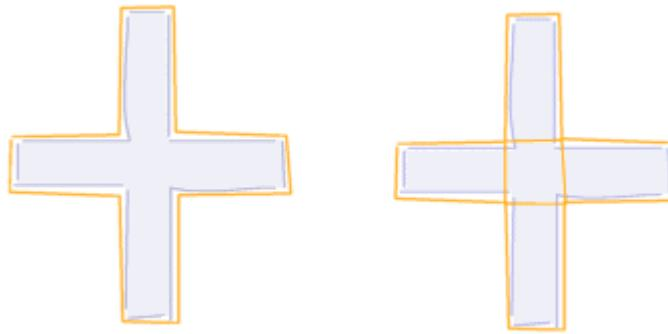

Figure 2. The apparatus map on the left only defines the borders of the plusmaze, whereas the one on the right divides the plusmaze into discrete areas.
2. It defines distinct areas *within* the apparatus which might be of interest to you. For example, in figure 2 the first map just defines the borders of the plusmaze, so how can ANY-maze know which are open and which are closed arms - or indeed which parts are arms at all? This is solved in the second map, where the apparatus is divided into different areas.